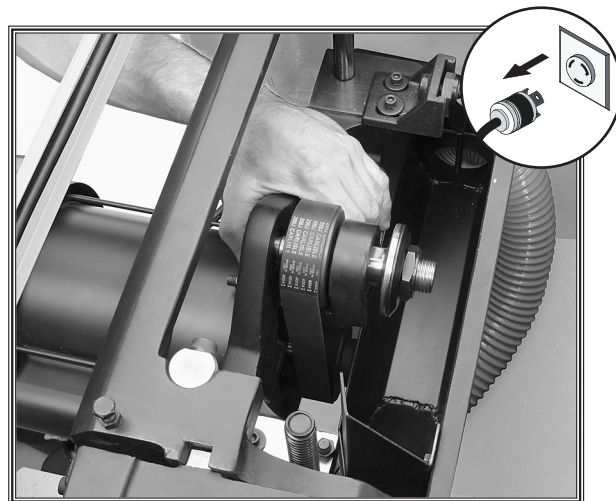

Figure 62. Installing flat belt (table removed for clarity.)
2. Push the belt inward and roll it onto the top pulley. Continue pushing the belt and rotating it up and down (**Figure 62**) until it is centered on both pulleys.